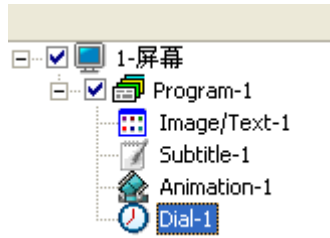

figure 3-19
- ◆ Dial  :click dial button, add new dial area in the current screen, as shown in figure 3-19,set the dial attributes as your require. More details about dial attributes setting ,please check in “4.5 dial attributes”